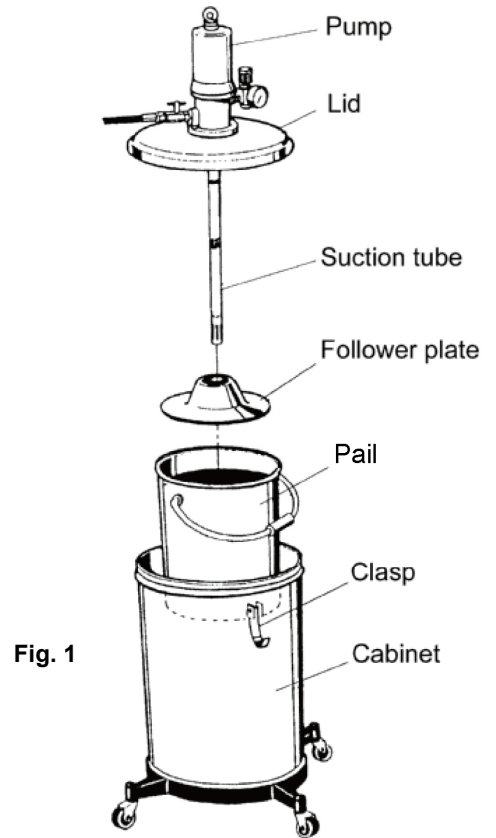

Fig. 1
3.1 Setting a Pail (Fig. 1)
- 4) Set the attached follower plate on the top surface of the grease in the set pail. (For the direction of the follower plate, refer to Fig. 1.)